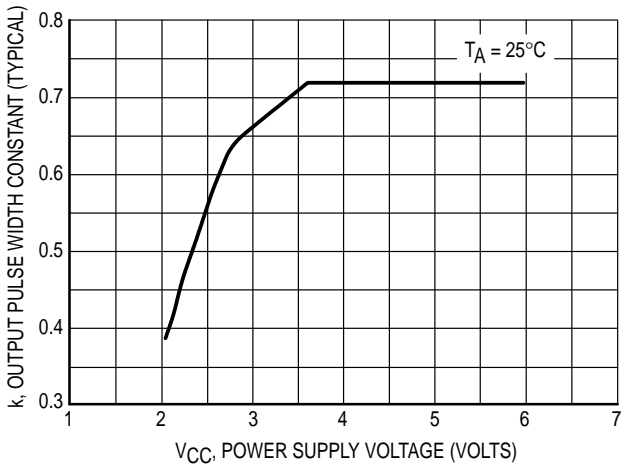

Figure 1. Typical Output Pulse Width Constant, k, versus Supply Voltage
* For output pulse widths greater than 100 μs , typically $\tau = kR_X C_X$, where the value of k may be found in Figure 1.